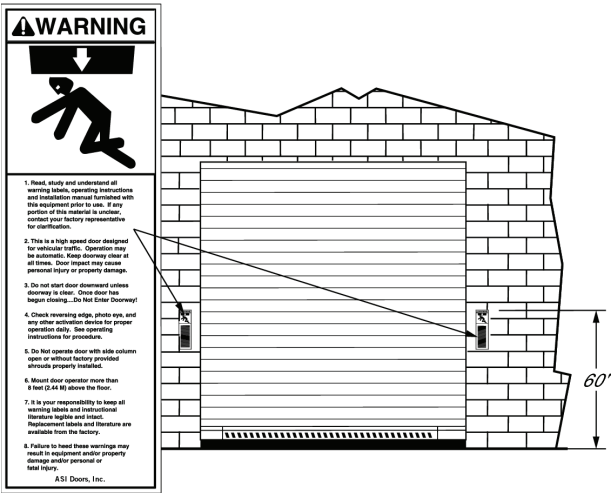
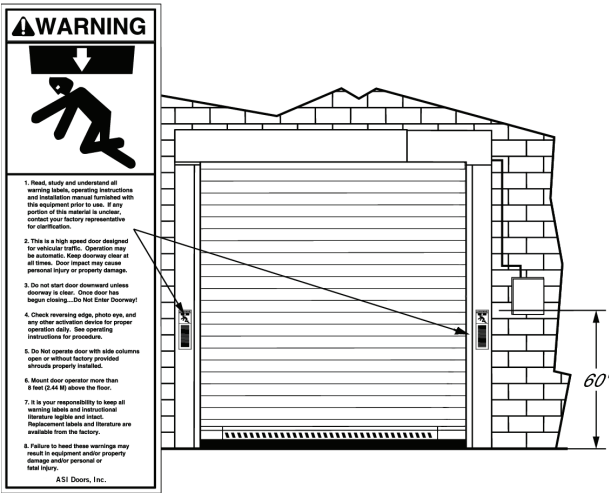

Figure 68: Warning Label Installation, Wall Mount
Figure 69: Warning Label Installation, Face Frames
1. Inspect warning labels 17A243 on face frame covers (Figure 68). Mount warning labels provided on other side of the wall opposite the side covers (Figure 69). The bottom of the warning label should be approximately 60” from the floor.